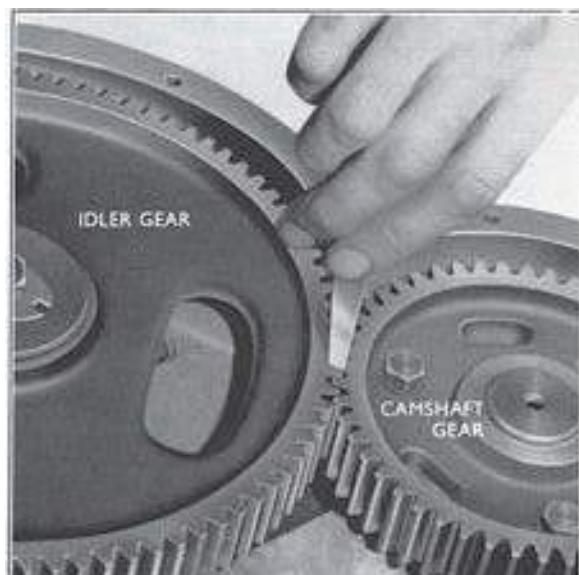

Fig. 9
1. Check the backlash between the gears using a suitable feeler gauge. The backlash should be between 0.003 in. to 0.006 in. (0.076 mm. to 0.132 mm.) (see Fig. 9).